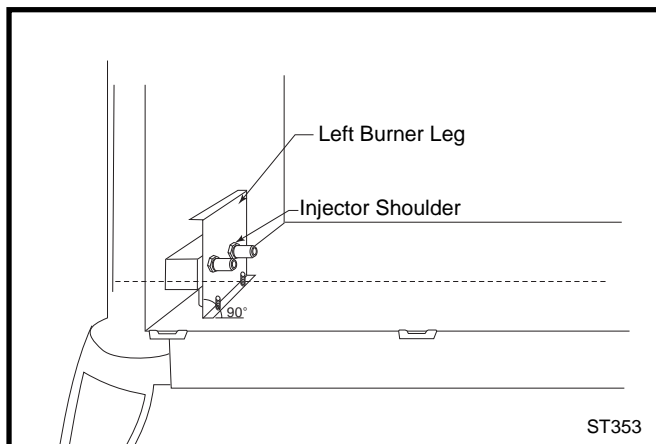

Fig. 46 Be sure to maintain 90° angle at left burner leg.
9. Refasten the two nuts and assemble the burner into the unit by sliding the burner in at an angle with the left side lower than the right side. Slide the left side onto the injectors. Lower the right hand side down into place. Make sure the burner is as far left as possible and the injector shoulders are inside the burner. **NOTE:** It is very critical to keep the left burner leg, which holds the injectors, at a 90° angle to the base. (Fig. 46) This keeps the orifices aligned with tubes on the inside of the burner. Failure to do so could affect the flame appearance and performance of the unit.